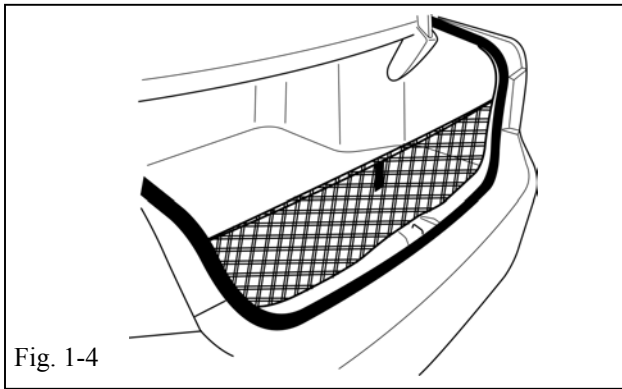

Fig. 1-4
-  (e) Confirm completed assembly. Make sure net handle is facing out toward the rear of the vehicle (Fig. 1-4).